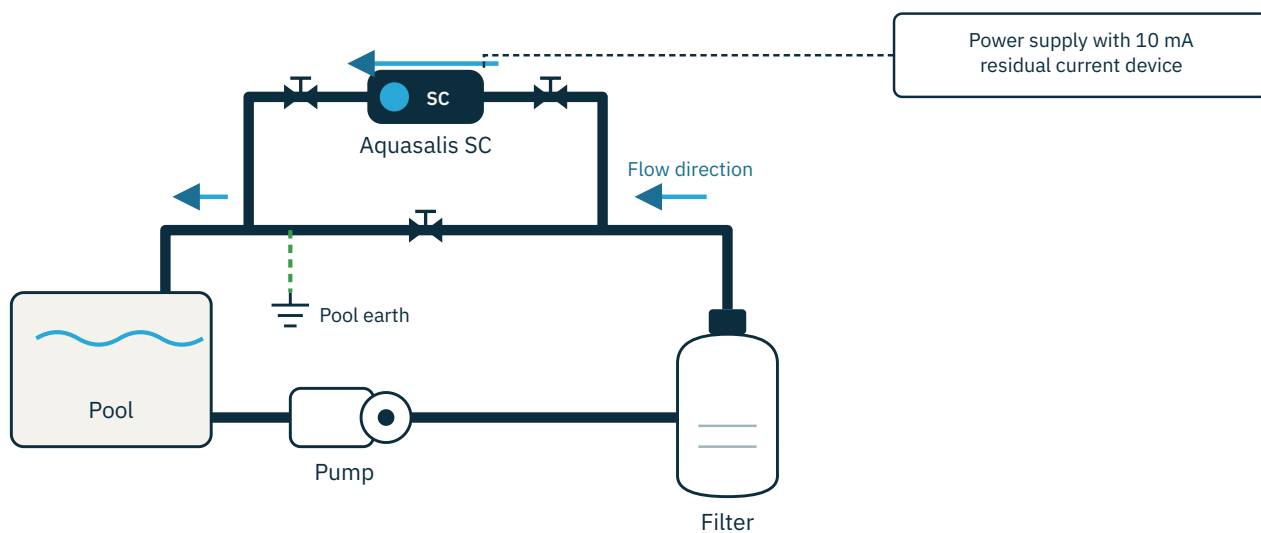
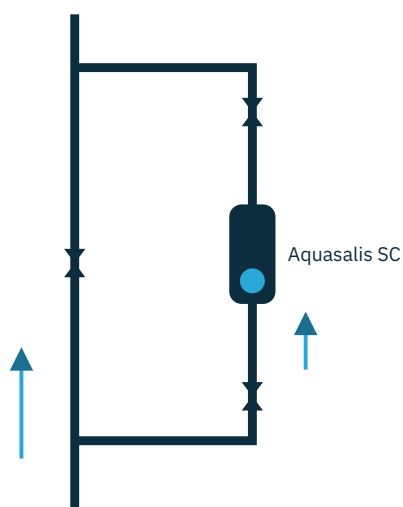

Figure 1 — Horizontal installation with bypass
Figure 2 — Vertical installation: water flows from bottom to top
3. Installation without a bypass is possible if your pump has a flow rate below 10 m³/h, but a bypass is strongly recommended so the hydraulic circuit can be isolated. If the pump flow rate is above 10 m³/h, a bypass with an adjustable valve on the main pipe is required. Install the device on the return line that carries water from the filter back to the pool inlets, as shown in Figure 1 (horizontal) and Figure 2 (vertical).
8. The device can be installed horizontally (Figure 1) or vertically (Figure 2). In a vertical installation, the water should flow from bottom to top.